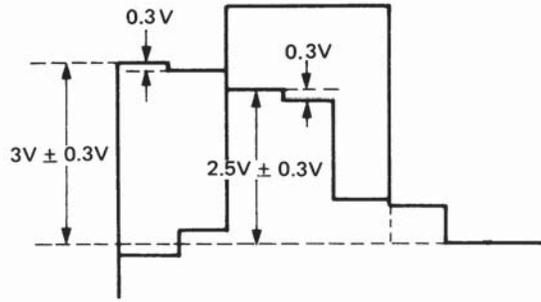

Figure 19 Waveform at TP46G
8. Confirm the amplitude of G-Y output is shown in figure 19.